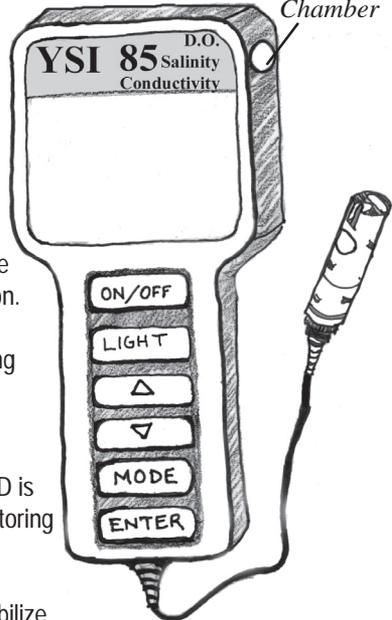

Figure 3-12: YSI 85 D.O., Conductivity, Salinity
2. Press and release the mode button (Figure 3-12) until the display reads in %.
1. Press and release the mode button (Figure 3-12) until the display reads in mg/l.